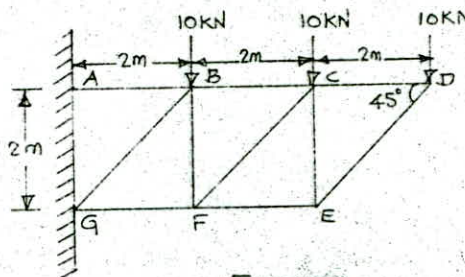

FIG. 5
- (B) Determine the magnitude and nature of forces in the members of truss shown in Figure 5 by graphical method. 12